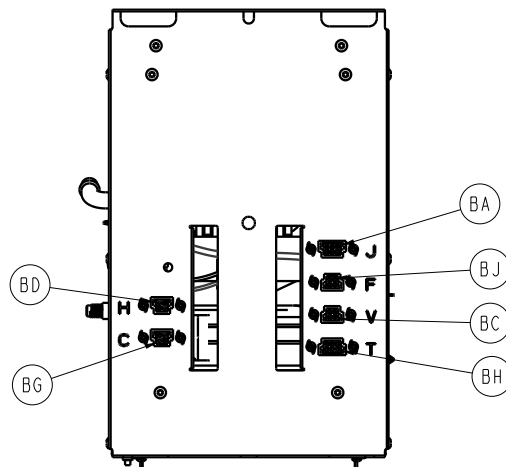

Figure 22 – Heater connector
18. Using wire cutters, remove the heater connector (BD) from the top bracket (AX) (Figure 22).